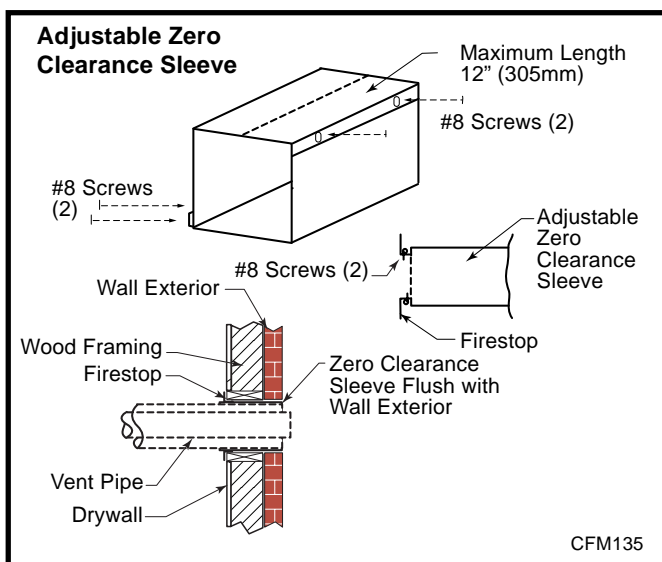

Fig. 23 Locate vent opening on wall.
Measure wall thickness and cut adjustable zero clearance sleeve parts to proper length (MAXIMUM 12" / 305mm). (Fig. 23) Adjust sleeve to minimum (9 $\frac{3}{8}$ " x 9 $\frac{3}{8}$ " and attach to firestop with #8 sheet metal screws (supplied). Assemble sleeve and attach to firestop with #8 sheet metal screws (supplied). Install firestop assembly.
1. Establish vent hole through the wall. (Fig. 23)